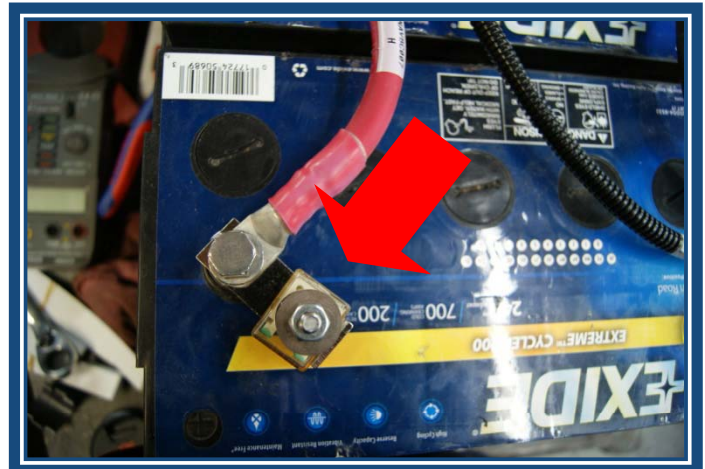

Figure 11
**Step 11:** The last connections can now be made at the liftgate batteries. First install the fuse cube assembly on one of the liftgate positive battery terminals. (See Figure 11)